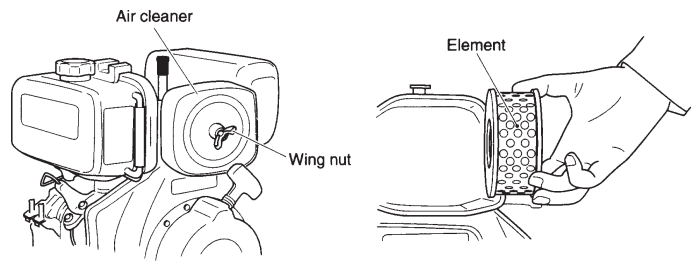

Figure 15. Engine Air Cleaner
1. Loosen the wing nut and detach the cover of the air cleaner shown in Figure 15.
2. Tap the element (Figure 15) several times on a hard surface to remove dirt, or blow compressed air [not exceeding 30 psi (207 kPa, 2.1 kgf/cm2)] through the element, side. **NEVER** wash the element with detergent because the element is oil-soaked type. Replace the element when the output decreases or bad exhaust color is noticed.